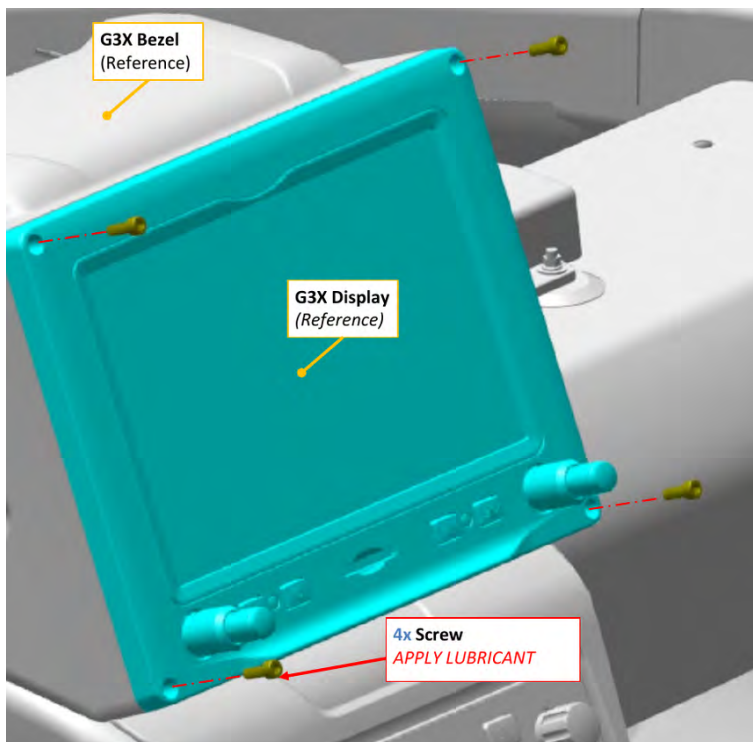

FIGURE 14-44
1. Remove screws from G3X Bezel. (See Figure 14-44.)